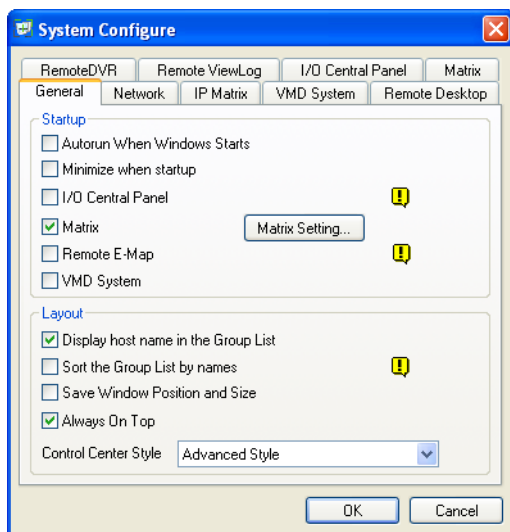

Figure 4-49
1. Click the **Configure** button and select **System Configure**. The System Configure dialog box (Figure 4-49) appears.